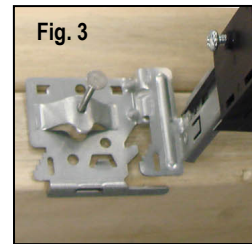

Fig. 3
1. Position fixture between joists, and slide towards the first joist. (Note: Square and round housings include integral v-notch markings on plaster frame return to assist in locating fixtures.) (Fig. 3)